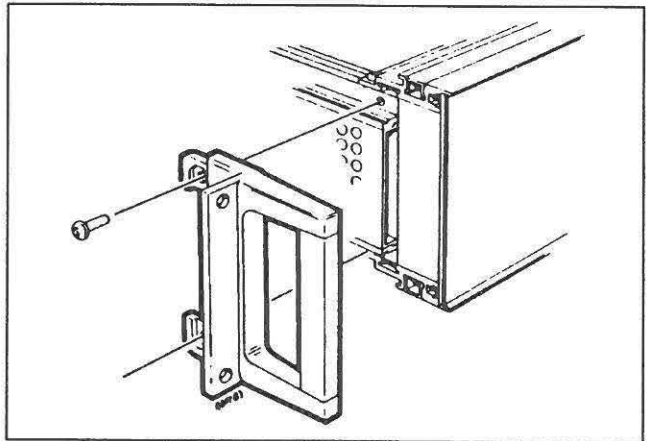

Figure 3-6 Changing handles
- 3 Carefully lift the top cover (B) off the generator.
- 5 Loosen the two screws (D) in the bottom cover.
- 6 Carefully lift the bottom cover (C) off the generator.
- 7 Take away each side piece by removing the two fixing screws. See fig 3-6